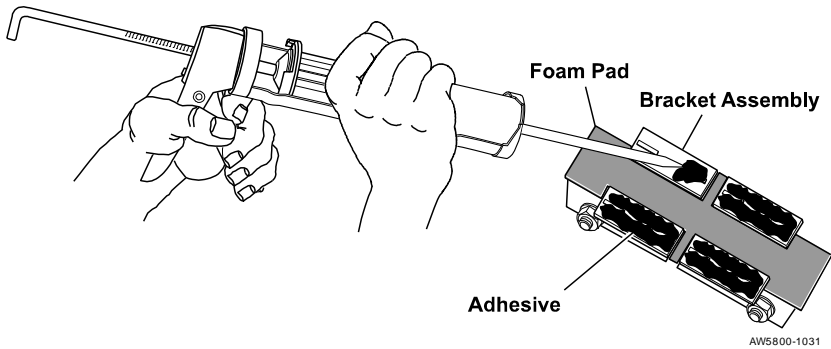

Figure 7. Applying Adhesive to the Bottom of the Bracket Assembly
1. Apply the adhesive **liberally** to the side wings on the bottom of the bracket assembly. See Figure 7.